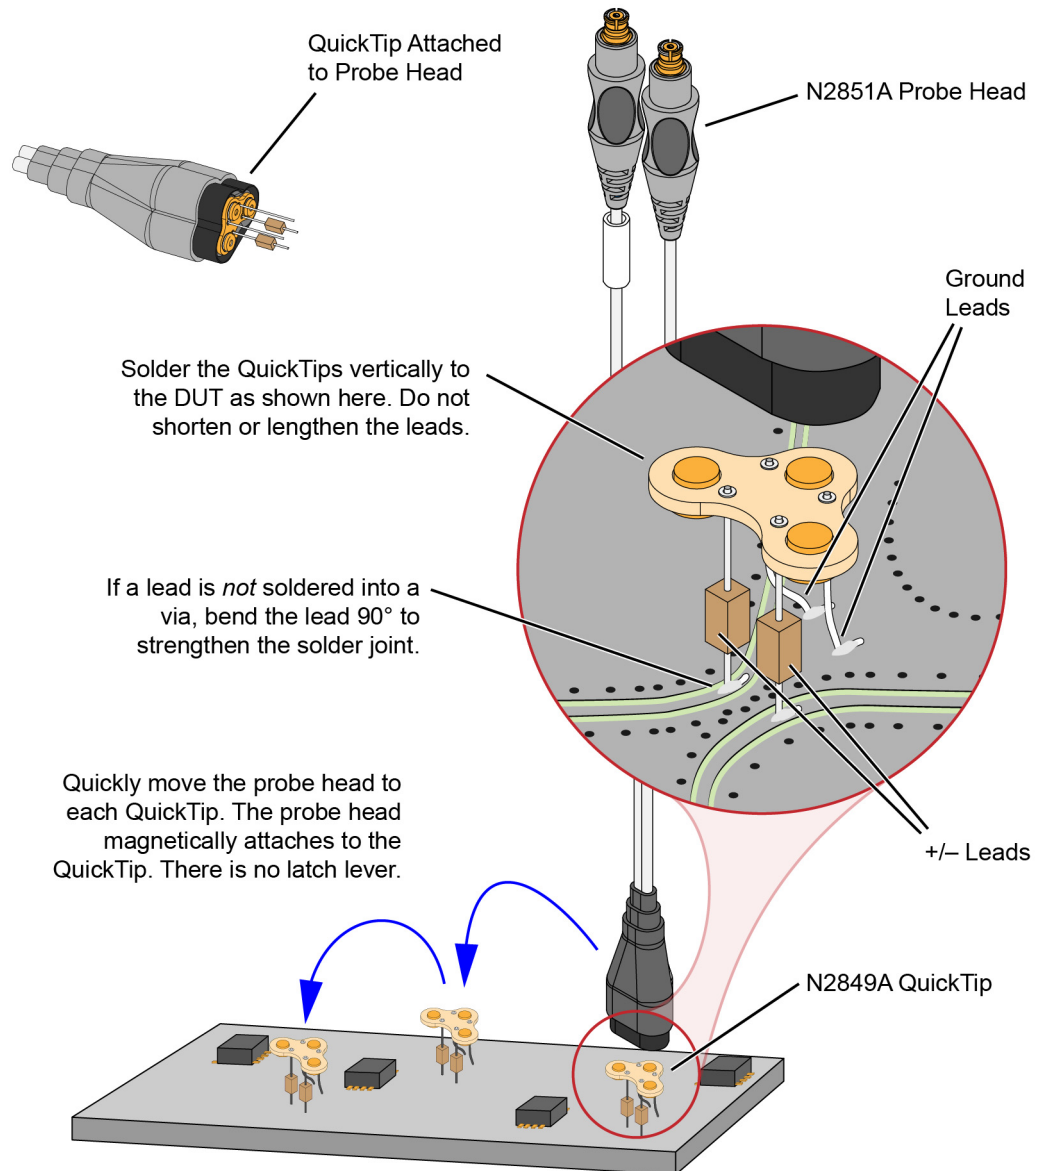

Figure 35 Probing with the N2851A Probe Head and N2849A QuickTip
Permanently solder any number of QuickTips to your DUT as shown in Figure 35 on page 61. Because the probe head is magnetically connected (instead of mechanically connected) to the QuickTip, you can effortlessly connect and disconnect to each QuickTip. For best performance, position the QuickTip vertically on the DUT. The N2849A QuickTip has two signal leads and two ground leads. The ground leads have minimal effect on your differential measurements. However, if you are making only differential measurements you can optionally cut off the ground leads or fold them out of the way. Be aware that without the ground leads, the mechanical stability of the QuickTip will be reduced and you will need to stabilize the probe head.
- Orient the QuickTip vertically as shown in **Figure 35** on page 61.